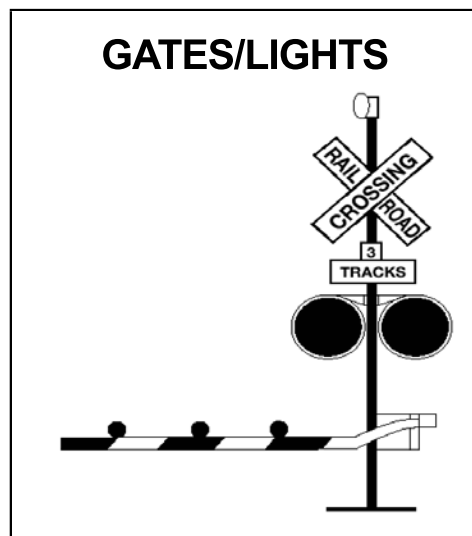

Figure 10.8
**Flashing Red Light Signals.** At many highway-rail grade crossings, the crossbuck sign has flashing red lights and bells. When the lights begin to flash, you must stop! A train is approaching. You are required to yield the right-of-way to the train. If there is more than 1 track, make sure all tracks are clear before crossing. See Figure 10.8.
**Gates.** Many railroad-highway crossings have gates with flashing red lights and bells. Stop when the lights begin to flash and before the gate lowers across the road lane. Remain stopped until the gates go up and the lights have stopped flashing. Proceed when it is safe. If the gate stays down after the train passes, do not drive around the gate. Instead, call your dispatcher. See Figure 10.8.